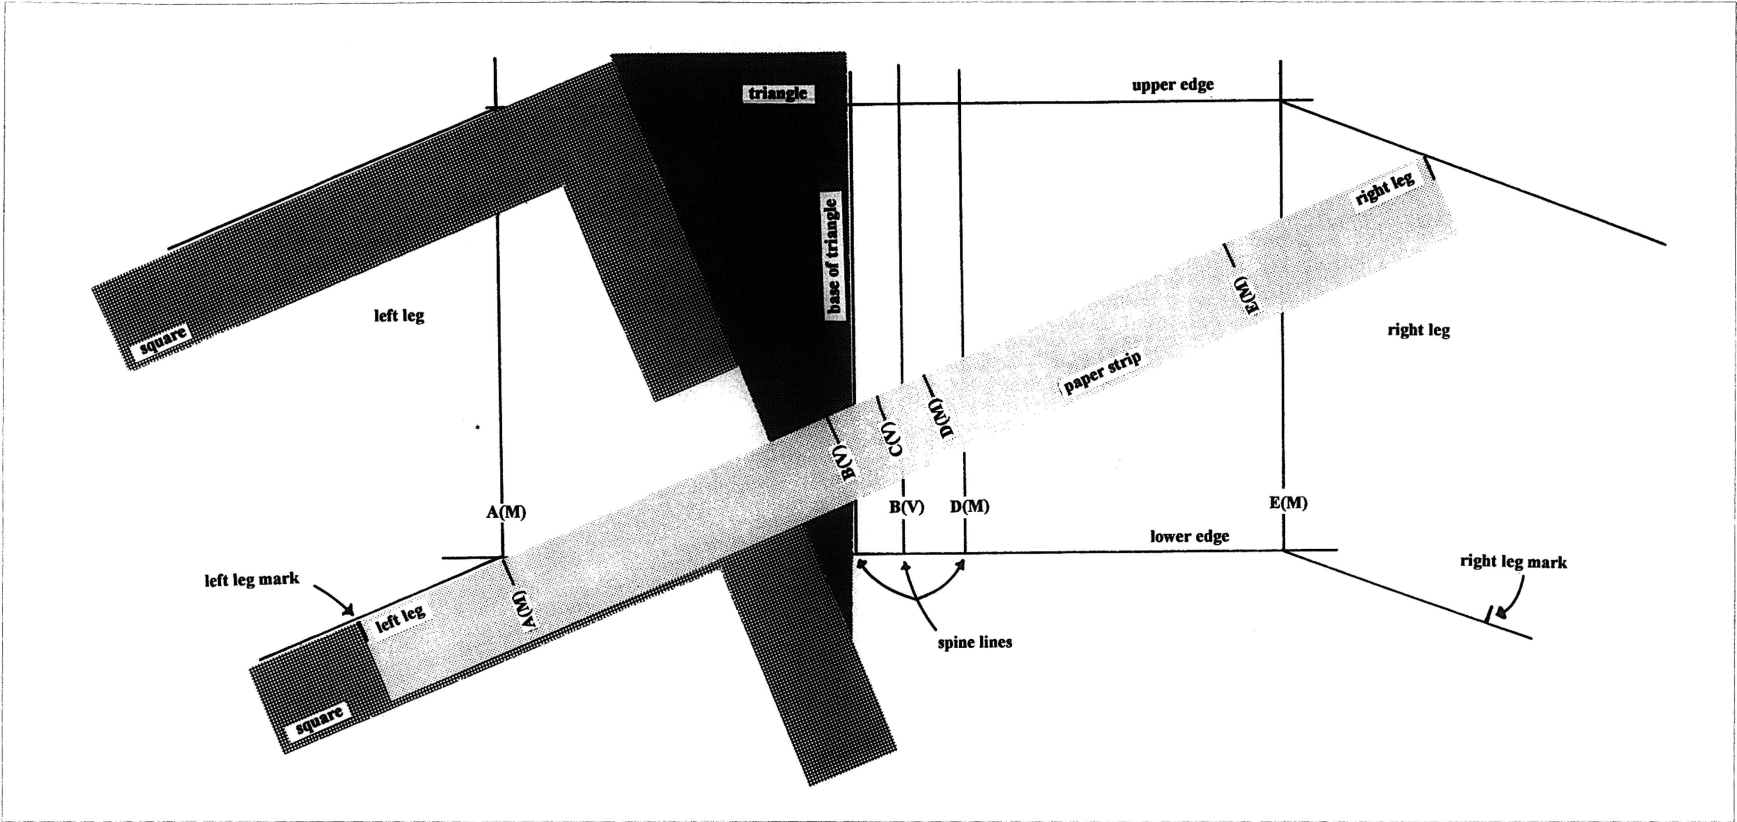

Fig. 8b. Translating predetermined angle to the leg drawing
Place the base side of the cardboard triangle along any one of the drawing's spine lines. The legs are to be drawn at right angles to the cardboard triangle using a square. Draw the legs, beginning at the intersections of the upper and lower edges of the pattern at the lines for the outer most angles. On the example, the legs are drawn at the upper and lower edges of both Lines A(M) and E(M). Using the paper strip, mark the length of both the left and the right legs on the lower leg lines (fig. 8b).